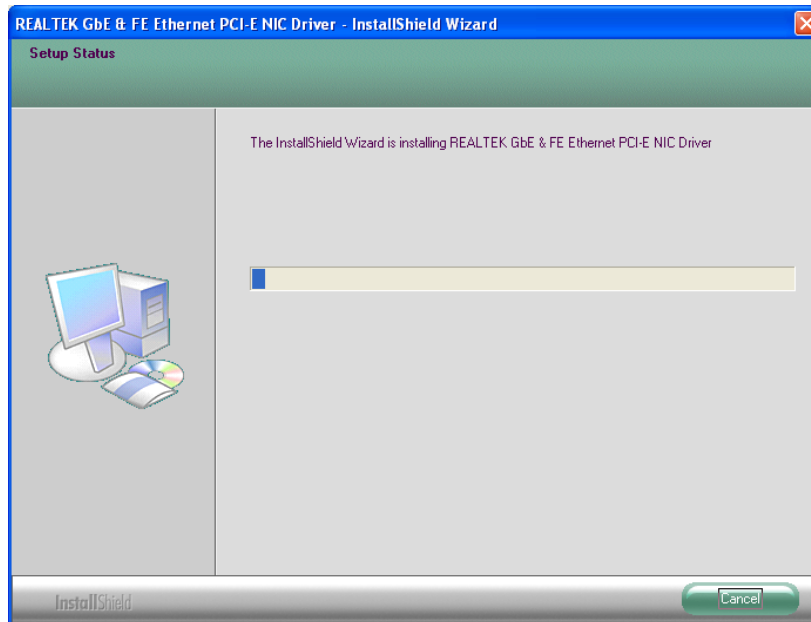

Figure 6-19: LAN Driver Installation
Step 8: The installation progress can be monitored in the progress bar shown in **Figure 6-19**.